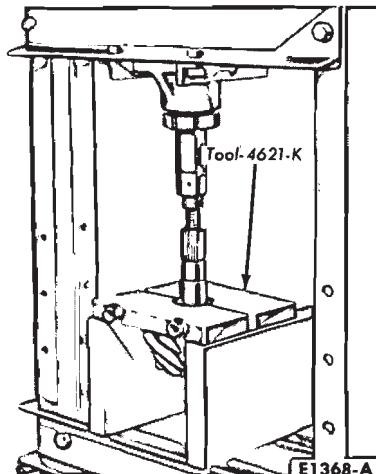

FIG. 19—Removing Pinion Rear Bearing Cone
17. To remove and install the pinion rear bearing cone use the tools in Fig. 19 and 20.